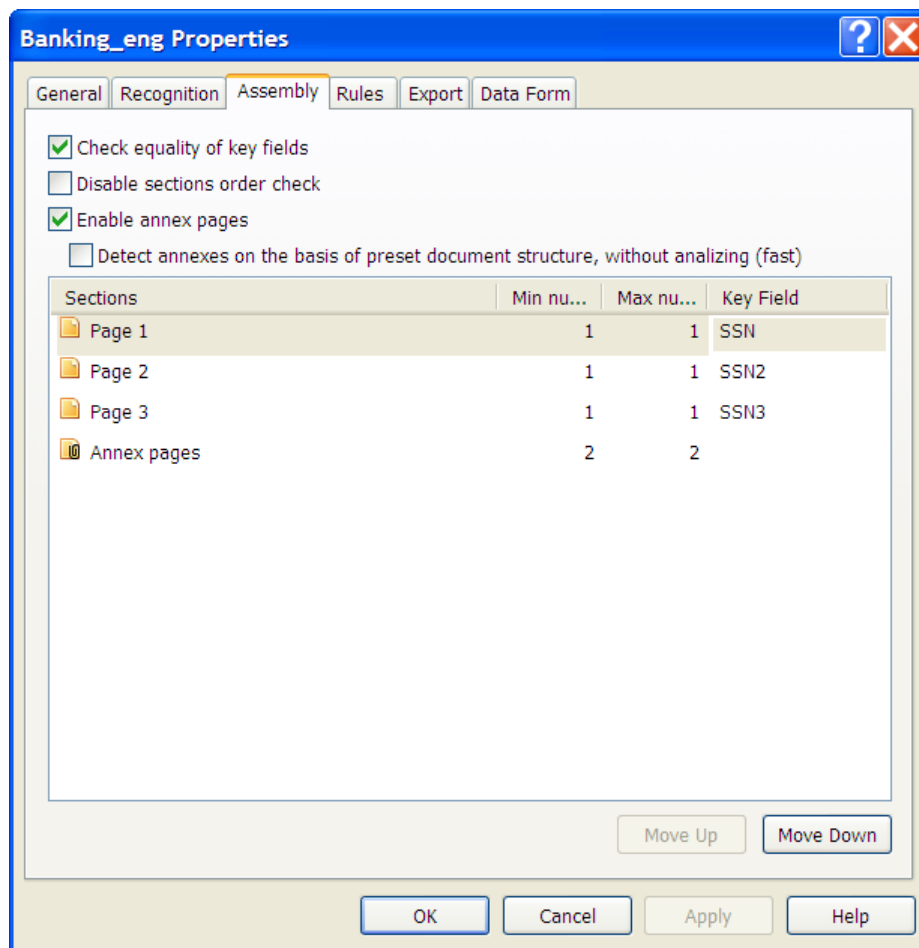

Figure 15. Document Definition properties, Assembly tab
On the **Assembly** tab (Figure 15), specify the minimum and maximum number of section repetitions in the document (the default number is 1).
- In the Document Definition Editor window, click **Document Definition > Document Definition Properties...** and open the **Assembly** tab. Select **Enable annex pages**. Then, specify the minimum and maximum number of annex pages (Figure 15).